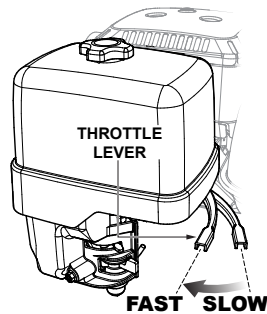

Figure 22. Throttle Lever
5. Move the throttle lever (Figure 22) away from the slow position, about 1/3 of the way toward the fast position.
7. If the engine has started, allow switch to return to **ON** position, then slowly return the choke lever (Figure 22) to the **OPEN** position. If the engine has not started, repeat steps 1 through 6.